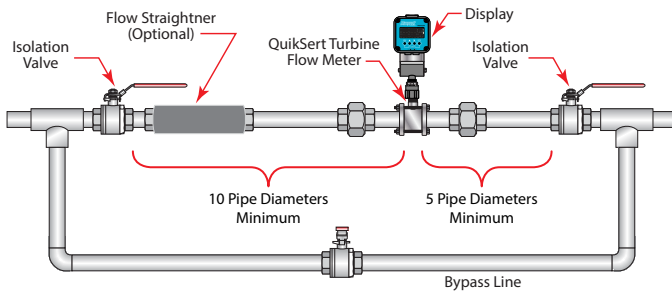
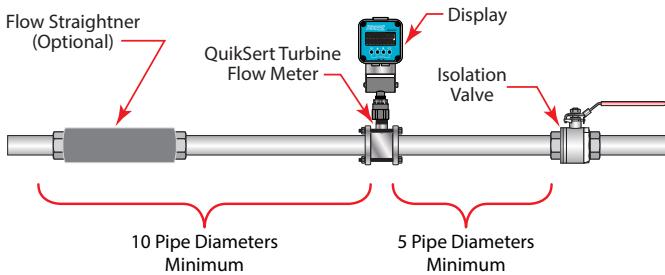

Figure 3: Meter installation using a bypass line
Figure 4: Meter installation without using a bypass line
6. Install a bypass line (Figure 3) for meter inspection and repair without interrupting flow. Install all control valves downstream of the flow meter, if a bypass line cannot be used (Figure 4 on page 7).